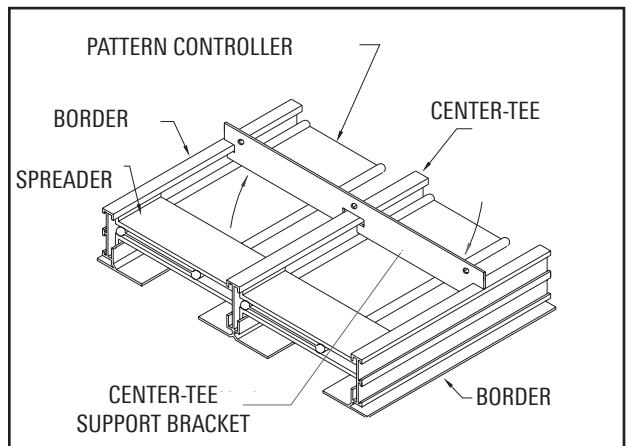

Figure 3. Installation of Center-Tee Support Bracket
- ☐ For Diffusers with two slots, a CenterTee Support Bracket is shipped loose for installation. The Center-Tee Support Bracket is installed over the center rail of the AIR-TRAC™ and then rotated to interlock with the outer AIR-TRAC™ borders as shown in Figure 3.